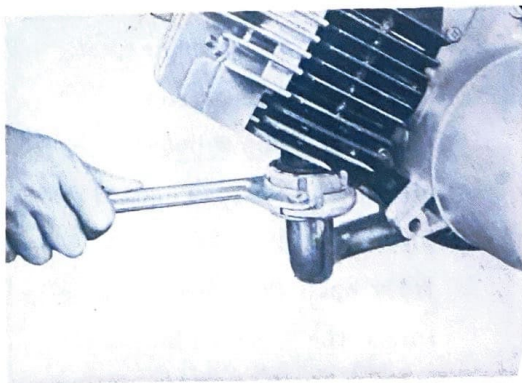

Fig. 3-1-2
- 2.) Remove the exhaust pipe. (Fig. 3-1-2)